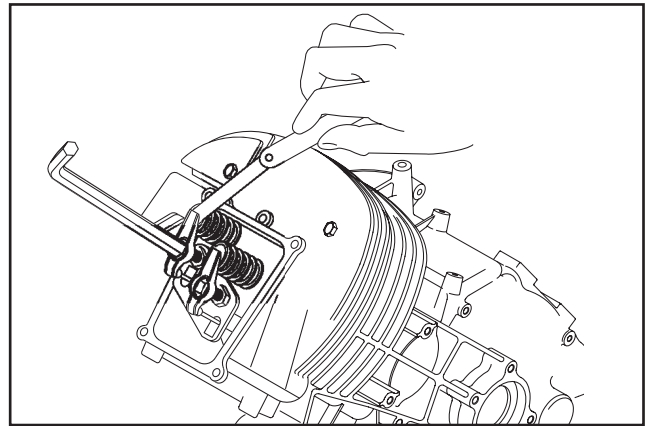

Figure 7-31 – Adjusting Valve Clearance
1. Loosen the rocker arm jam nut. Use an 8mm allen wrench to turn the pivot ball stud while checking the clearance between the rocker arm and valve stem with a feeler gauge (see Figure 7-31).